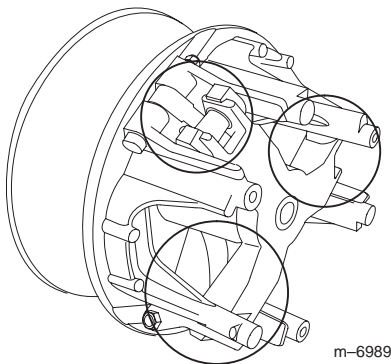

Figure 31
5. Lubricate the moving parts in the areas circled in Figure 31 using Toro Dry Lubricant Spray, available through your Authorized Toro Dealer or Distributor.